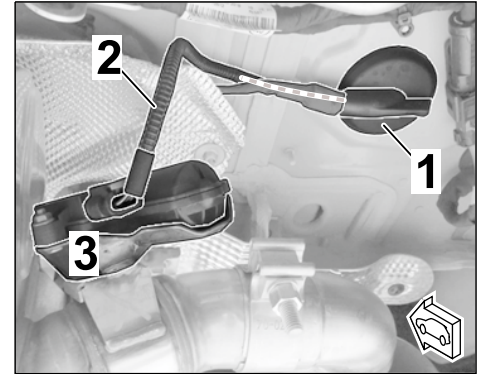

Figure 35
3.3.4 **ONLY** if a grommet with several lines is installed on the underside (including an exhaust flap branch (left/right of the standard rear silencer) ⇒ *Figure 35*):